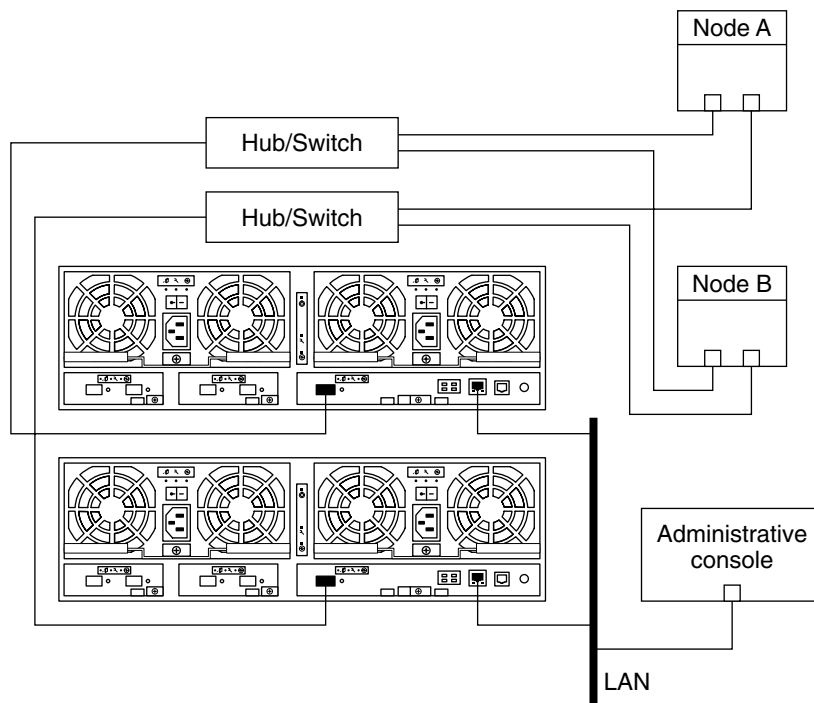

FIGURE 1-5 Adding a Single-Switch Configuration: Part III
35. If necessary, install a GBIC or an SFP, as shown in Figure 1-5.
36. If necessary, connect a fiber-optic cable between the FC hub/switch and Node B, as shown in Figure 1-5.